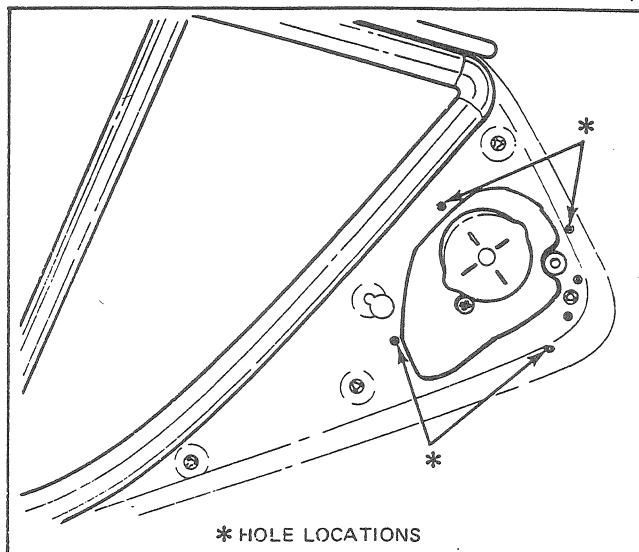

Fig. 3 - Article No. 108
17. Drill four 1/8" dia. holes as shown in Fig. 3 and secure the housing assembly to the body panel with four (4) 1/8" dia. pop rivets. Paint rivets with body color touch-up.